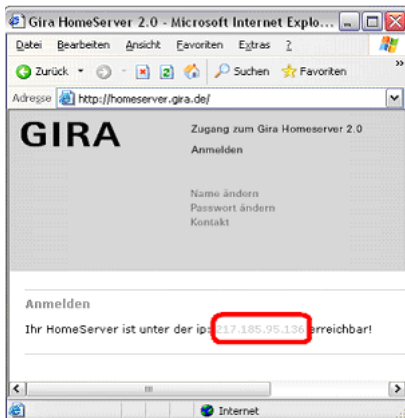

Fig 4.2: Displaying the current IP address of the HomeServer.
- In the Anmelden (login) area (1), enter the name of your HomeServer. Please note that you must also enter the serial number of your HomeServer if you are logging in for the first time.
- Click on Anmelden (login). The current IP address of the HomeServer is shown in the Anmelden (login) area (see Figure 4.2).